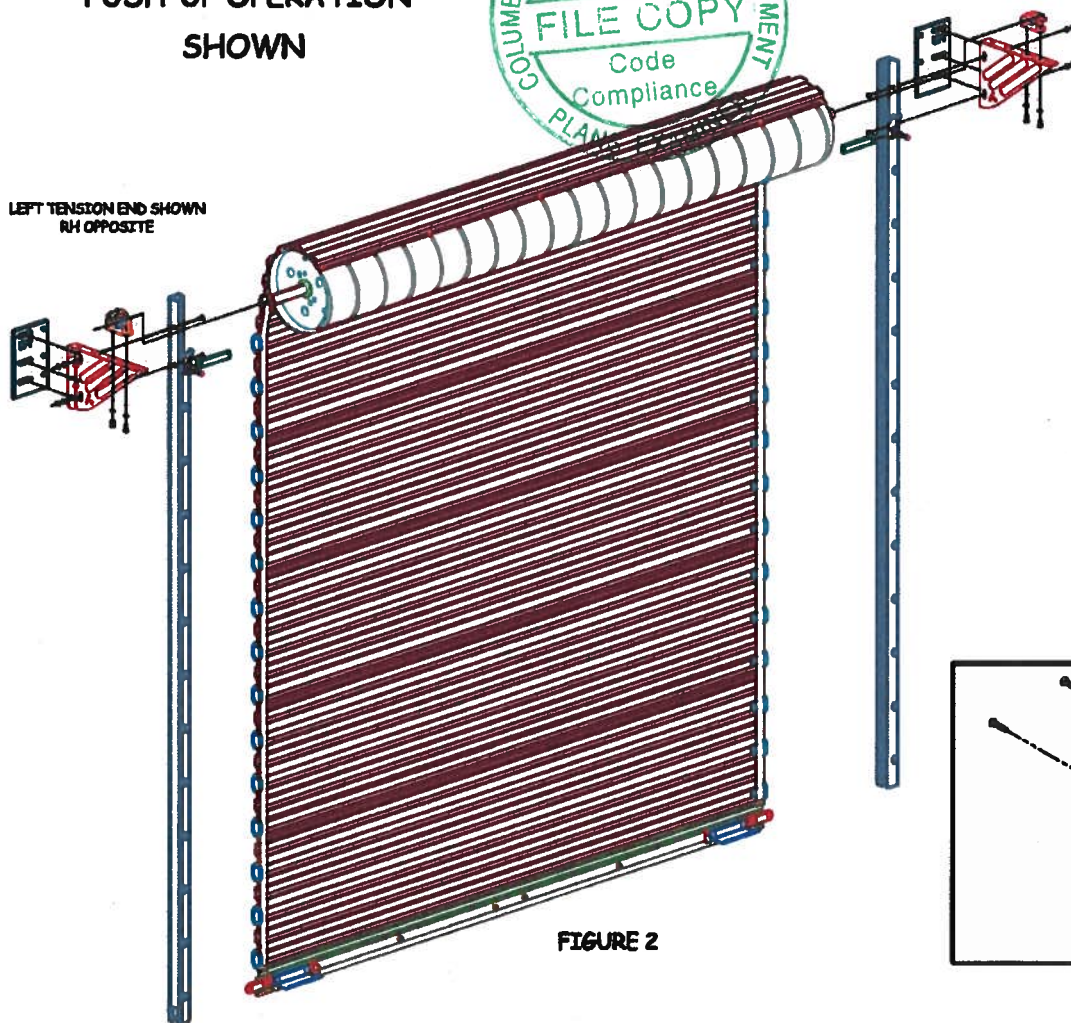

FIGURE 2
- B. Slide tensioner assembly over axle, with arrow pointing toward wall. Release pin. See figures 2 and 6.
- A. Slide stamped axle support over axle, with arrow pointing toward wall. See figures 2 and 7.
- C. Slide cast axle support bracket over axle. See figures 2 and 8.
- B. Slide stamped axle support over axle, with arrow pointing toward wall. See figures 2 and 9.
- A. Attach tensioner assembly to door bracket using 2 each 3/8-16 x 3/4" grade 5 hex bolts, 3/8" lock washers and 3/8" flat washers. See figures 2 and 6.
- A. Attach stamped axle support to door bracket using 2 each 3/8-16 x 3/4" grade 5 hex bolts, 3/8" lock washers and 3/8" flat washers. See figures 2 and 7.
- C. Connect cast axle support bracket to side of chain hoist using 3/8-16 x 3/4" hex bolt and 3/8" lock washer. See figures 2 and 8.
- A. Attach stamped axle support to door bracket using 2 each 3/8-16 x 3/4" grade 5 hex bolts, 3/8" lock washers and 3/8" flat washers. See figures 2 and 9.